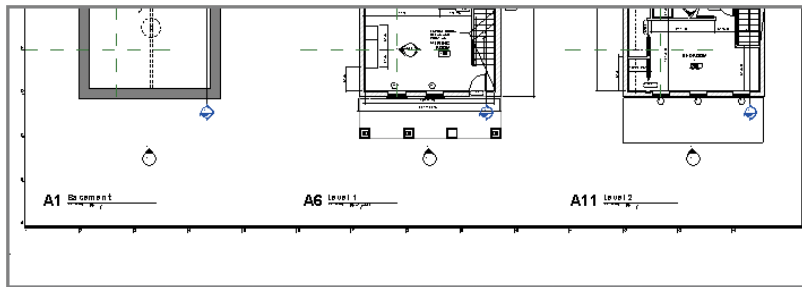

FIGURE 12.20 Laying out the rest of the sheet views
5. Do the same to the other two views. Renumber Level 1 to A6 and Level 2 to A11 to match their locations on the sheet as shown, shortening the view-tag lines to a more appropriate length (Figure 12.20). Notice that the view tags align with other view tags on the sheet, similar to the way the plans did.